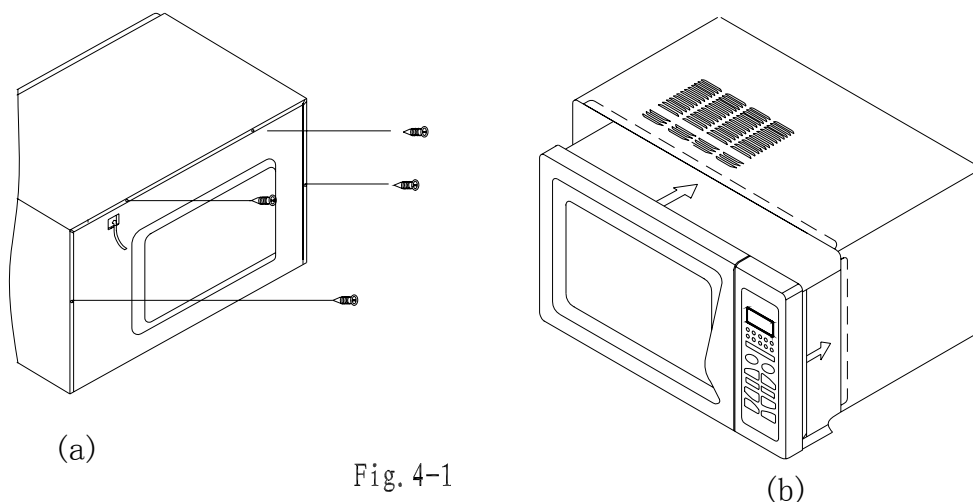

Fig. 4-1
Push the cabinet back 25mm according to the arrow direction shown at FIG.4-1 (b), and the cabinet can be taken off.
2. Check whether the up, right and left troughs have been inserted with the curved with the curved rim of the oven (FIG.4-1 (b)). If the cabinet and the oven are not tallied exactly, then it should be reassembled or those untallied parts should be smoothed.